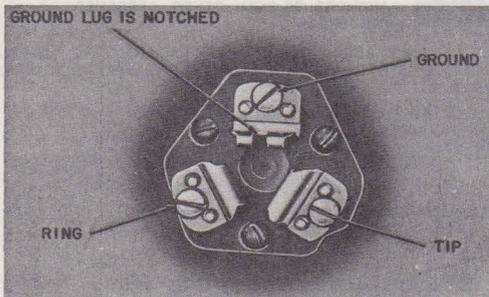
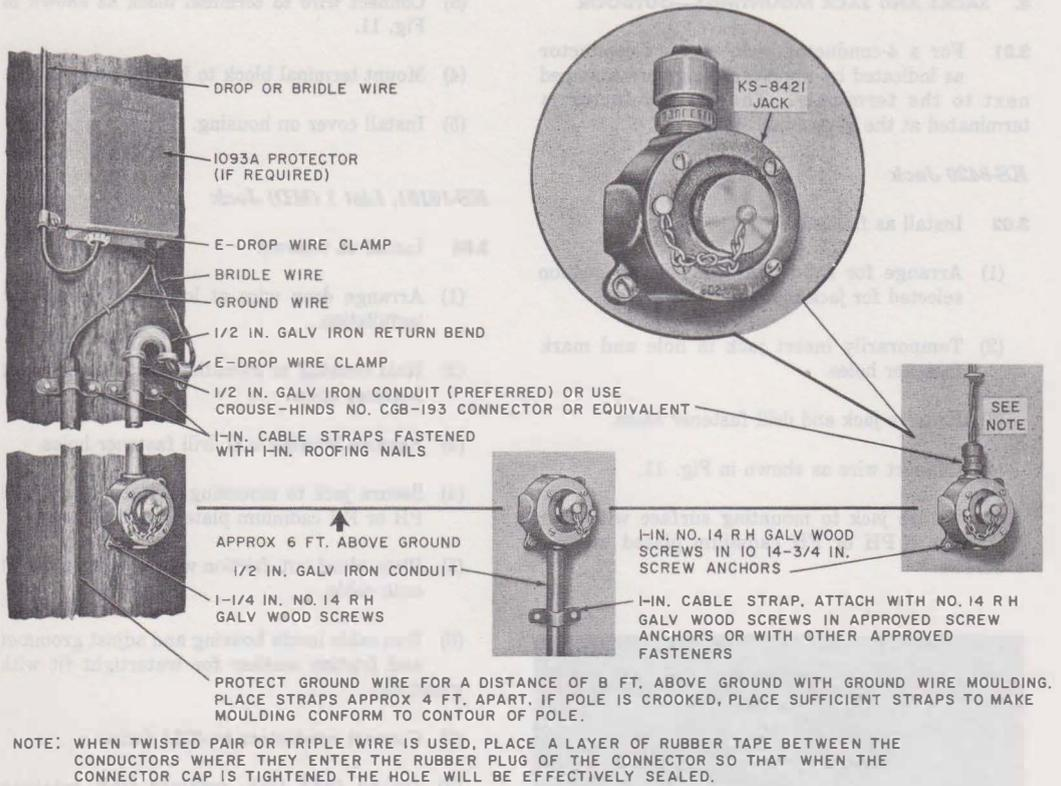

Fig. 11—Connections for KS-8420 and KS-8421 Jacks
Fig. 12—KS-8421 Jack, Typical Installation
- (1) Arrange for a 2-11/16 inch hole at location selected for jack installation.
- (2) Temporarily insert jack in hole and mark fastener holes.
- (3) Remove jack and drill fastener holes.
- (4) Connect wire as shown in Fig. 11.
- (5) Secure jack to mounting surface with four No. 8 PH or FH cadmium plated tapping screws.
- (1) Arrange drop wire or bridle wire and conduit at location selected for installation (Fig. 12).
- (2) Secure the jack housing to the mounting surface using suitable fasteners.
(3) Connect wire to terminal block as shown in Fig. 11.
(4) Mount terminal block to jack housing.
(5) Install cover on housing.